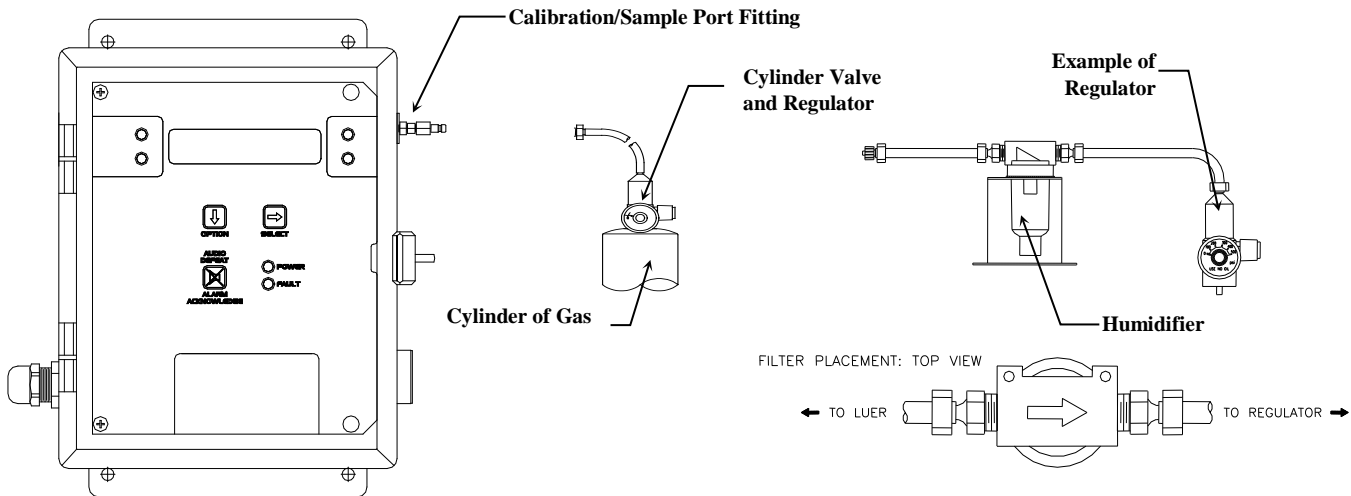

Figure 8: Connection of Calibration Gas Cylinder
- Apply calibration gas to sensor. See **Figure 8**. After about 1 minute and mV reading has stabilized.